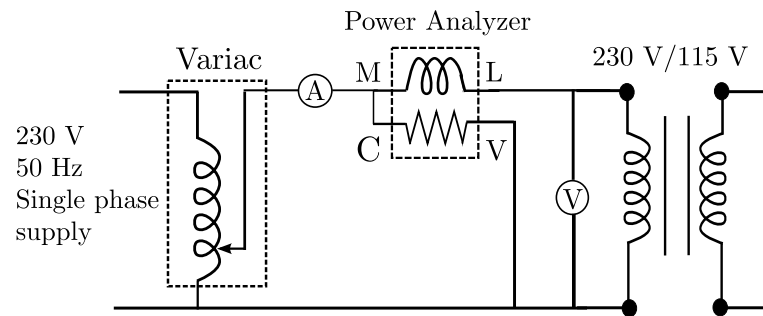

Figure 6: Connection diagram for short circuit test
The circuit diagram to conduct this test is shown in Fig. 6. In this test, the LV terminals of the transformer are short circuited. The primary voltage is gradually applied till the rated current flows in
1. Connect the circuit as shown in Fig. 6. Set the autotransformer output to zero. **It is extremely important to note that a low voltage is to be applied to the primary winding.**